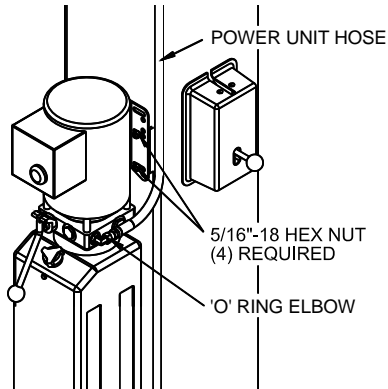

Fig 7 – Power Unit Mounting
23) Mount Power Unit to power column as shown in **Fig 7**. The mounting hardware, (4) 5/16"-18 hex nuts, are pre-installed on power unit mounting bracket.
26) Thread 9/16-18 O-ring elbow (*in hardware box*) into power unit. Attach free end of power unit hose to elbow. See **Fig 7**. CAUTION do not damage rubber O-ring.